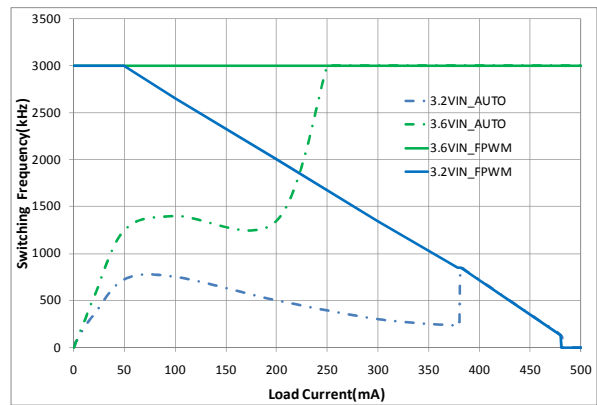

Figure 7. Effect of $t_{OFF(MIN)}$ on Reducing Switching Frequency
- Limited by the effect of t_{OFF} minimum (see Figure 7 in Typical Performance Characteristics).